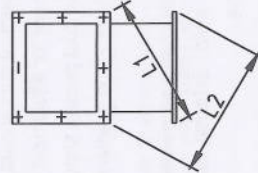

Fig.12 Elbow
11) The verticality tolerance between the flanges at two ends of the elbow of rectangle flange should be 3.0(90° elbow), and the absolute value of difference between diagonal lines should be  $|L_1 - L_2| \leq 3$ , as shown in fig.12.